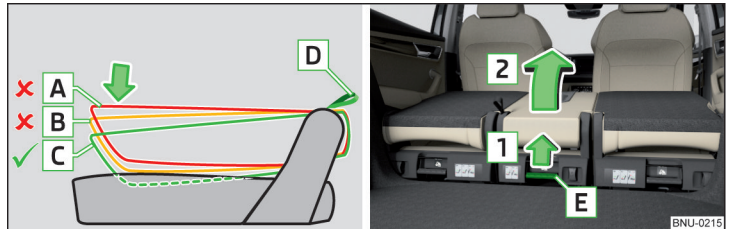

Fig. 91 Folding up the middle seat
- › Pull on the loop **D** and push the seat backrest in position **C** about 4 cm deep into the seat » Fig. 91.